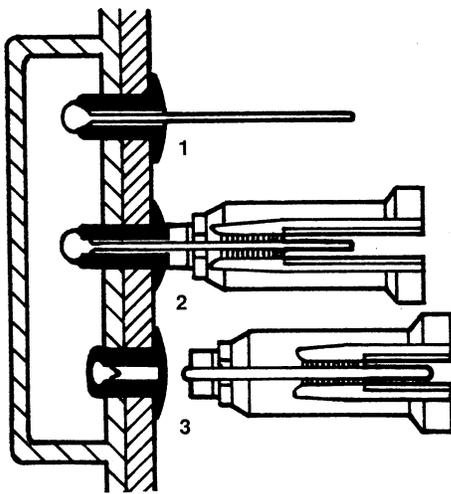

Figure 47.—Pop rivet installation.
**Pop rivets.**—Pop rivets16 are familiar to most of the public for home repairs. However, they are not recommended for critical structural applications. The stem sometimes falls out of the sleeve after the rivet is installed, and the symmetry of the blind (formed) head leaves much to be desired. Although the pop rivet shown in figure 47 is the most common type, USM makes a closed-end rivet and three different head styles.